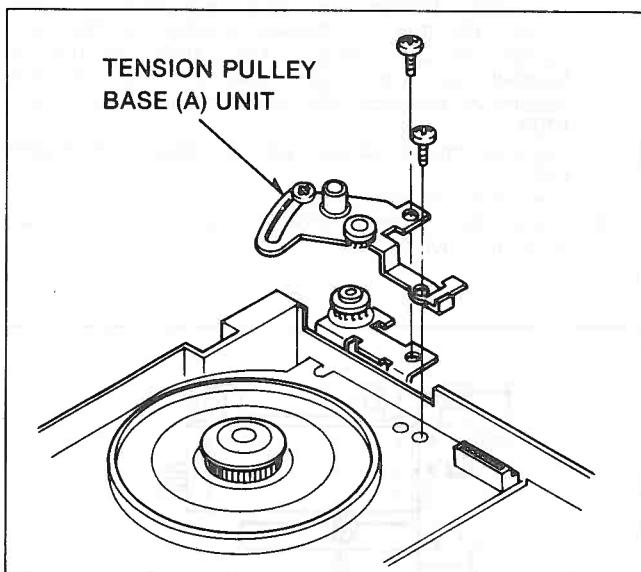

Figure M55
1. Install the Tension Pulley Base (A) unit as shown in Figure M55.